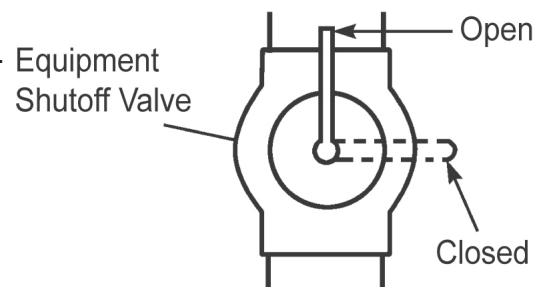

Fig. 21 - Equipment Shut-off Valve
- Spray leak test solution on all gas carrying connections and fittings. Presence of bubbles at areas of applied test solution indicates a gas leak. If leaks are detected or you smell or hear gas, shut off the gas supply valve immediately (See Fig. 21) and repair or replace the defective part. Do not use the heater until all leaks are corrected.